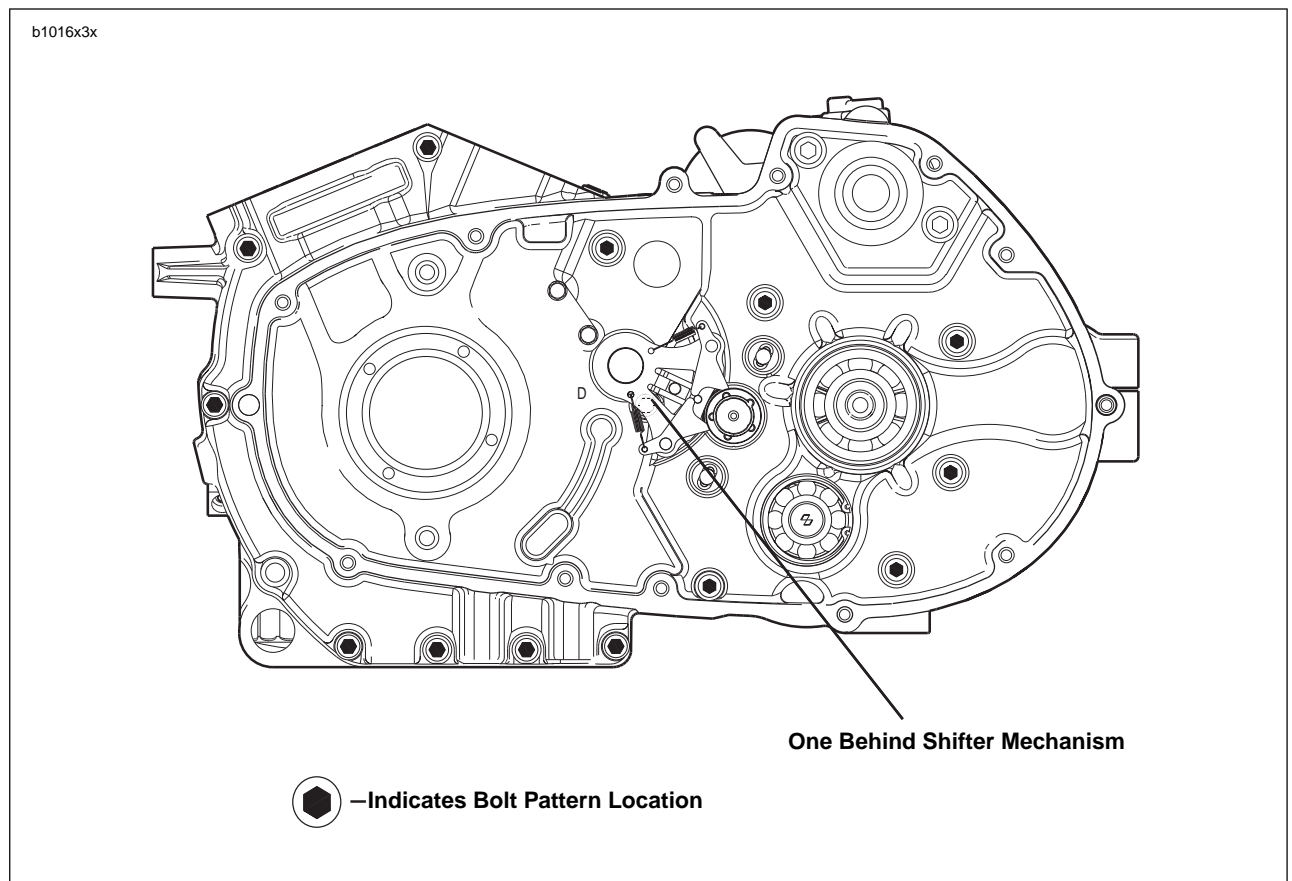

Figure 3-134. Crankcase Fasteners
8. See Figure 3-134. Remove screws securing crankcase halves together.